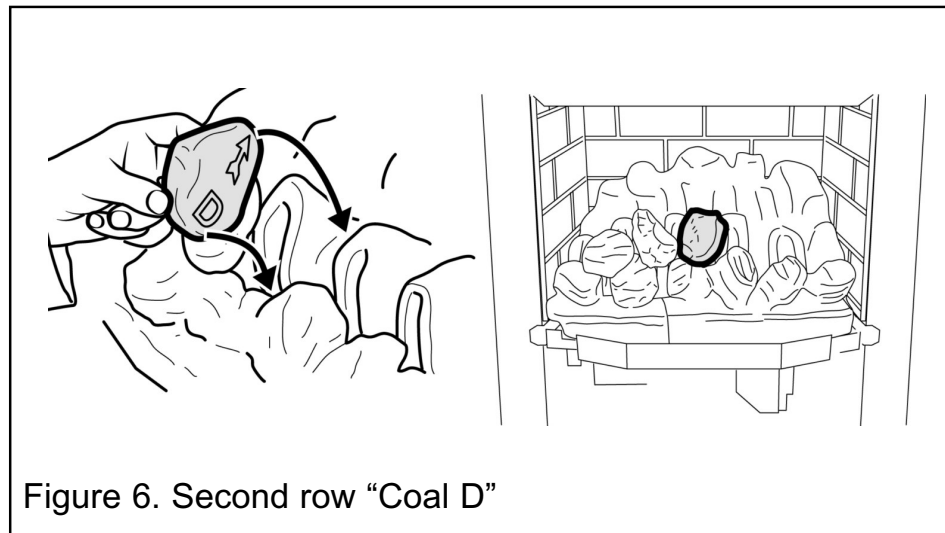

Figure 6. Second row "Coal D"
8. Hold coal 'D' upright with the arrow pointing to the top. Locate coal 'D' as shown in figure 6.